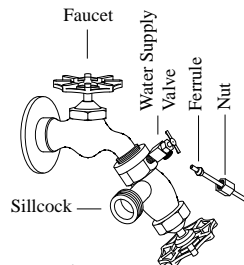

Fig. 6
- **Connect water supply line.** Install a sillcock and water valve on faucet as shown by figure 6. Place the nut and ferrule on the tubing and tighten the nut until water tight. **NOTE:** Do not connect the water supply to any soft water applications.